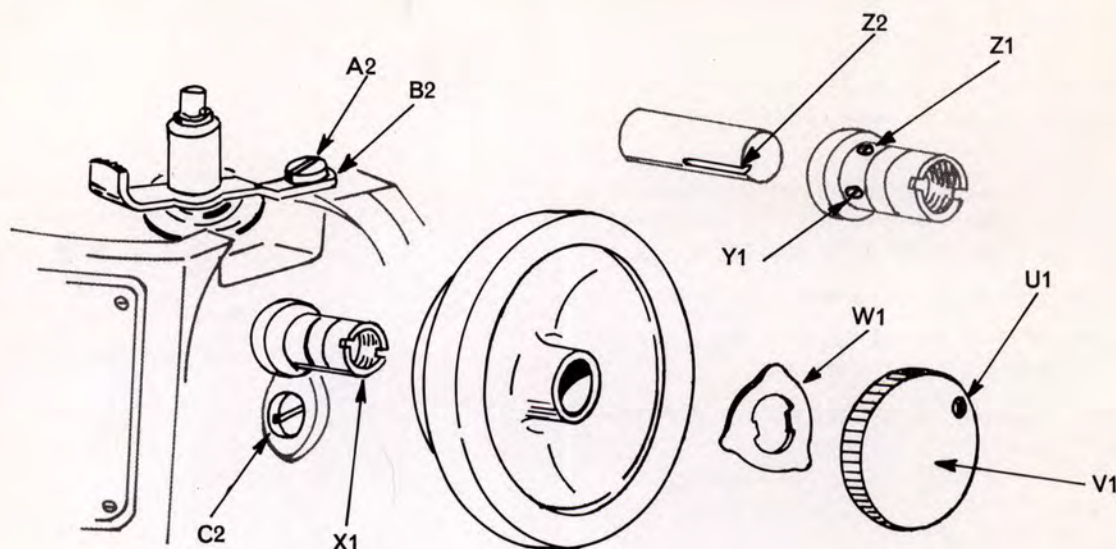

Fig. 23. Hand Wheel and Bobbin Winder Assembly.
#### REMOVAL: (See Fig. 23)
4. Remove large hinge screw C2, Fig. 23, page 13, with its washer from arm casting.
2. Replace large hinge screw C2, Fig. 23, page 13 with its washer through arm casting and into regulator.